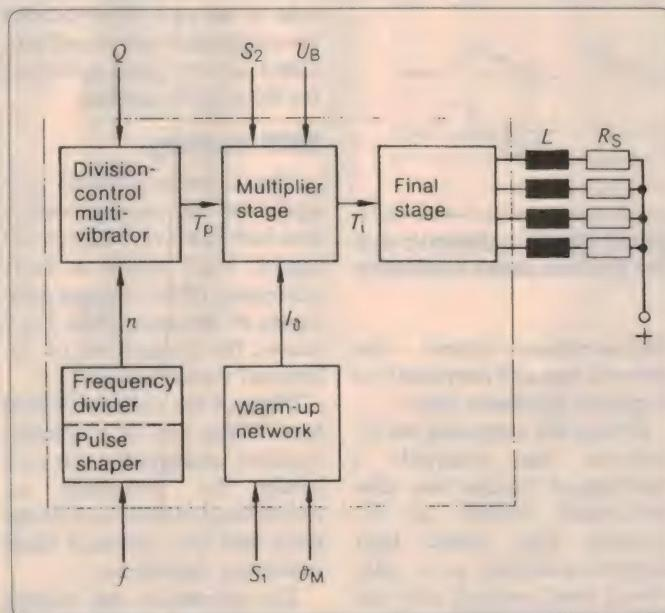

Fig.1: Block diagram of the control unit for the L-Jetronic system. (Courtesy Bosch Australia).
The L-Jetronic ECM was again of the analog variety and had some very clever circuitry. Fig.1 shows a basic schematic of the internal principles of the unit, while Fig.2 shows the breakdown of the internal waveshaping.
**RMS Current Monitor (May 1997):** Fig.1, the diagram showing the mains current waveform for a typical piece of electronic equipment, was accidentally omitted. It is reproduced here, and we apologise for the omission.